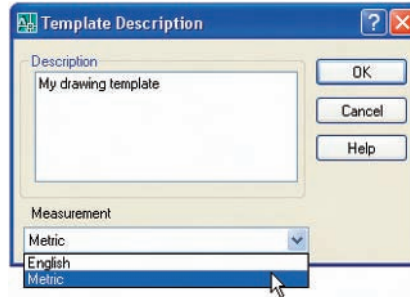

Fig. 4.23 The **Template Description** dialog
4. A **Template Description** dialog appears. Make *entries* as indicated in Fig. 4.23, making sure that **Metric** is chosen from the popup list.